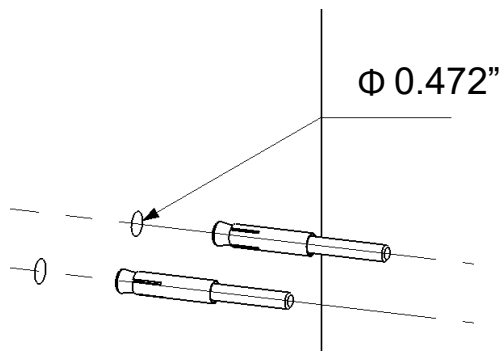

Figure 5.
2. As shown in figure 5 ,drill a  $\Phi 12\text{mm}$  (  $\Phi 0.472''$  ) , 55mm (2.165")depth hole one the wall .